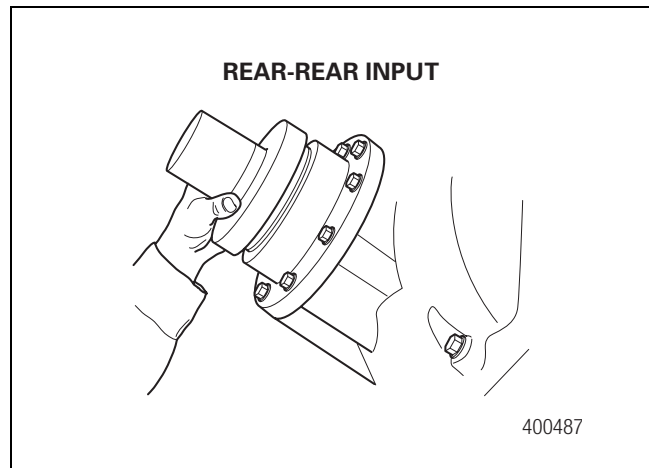

Figure 5.11
- Install the rear-rear axle input seal. Hold the seal only on the outer diameter. Position the seal into the seal driver and align it with the rear-rear axle input bearing cage. Use a dead-blow hammer and the appropriate driver to install the seal into the bearing cage. Figure 5.11.